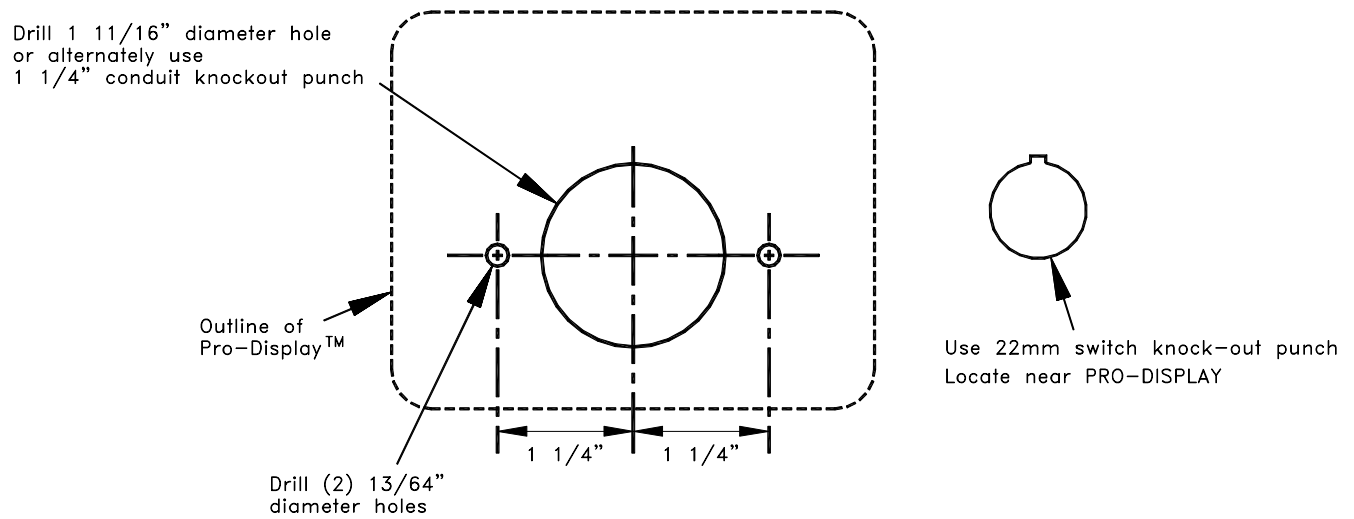

Figure 6.2
1. Find a suitable location on the cubicle door and mark the location of the three (3) holes using the dimensions in Figure 6.2.
2. Drill two (2) 13/64" mounting holes.